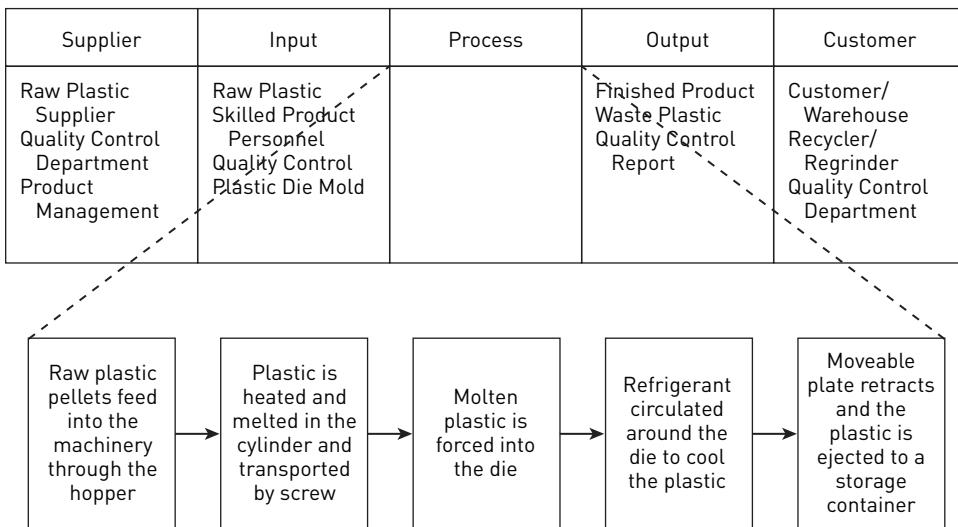

Figure 11-18
10. Finish by right-clicking each line and choosing Format and then Line. Configure the line so that it is dashed with a line weight of 1.25 pt and has 60-percent transparency. Figure 11-18 displays the resulting image.